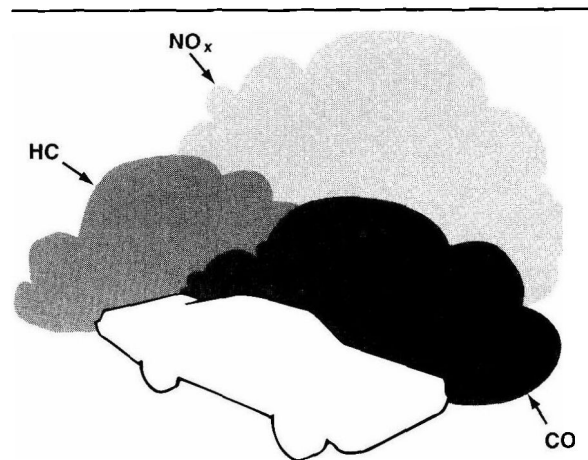

Figure 1-2. Hydrocarbons (HC), carbon monoxide (CO), and oxides of nitrogen (NO_x) are the three major automotive pollutants.
An internal combustion engine emits three major gaseous pollutants into the air: **hydrocarbons (HC)**, **carbon monoxide (CO)**, and **oxides of nitrogen (NO_x)**, figure 1-2. In addition, an automobile engine gives off many small liquid or solid particles, such as lead, carbon, sulfur, and other **particulate matter (PM10)**, which contribute to pollution. By themselves, all these emissions are not smog, but simply air pollutants.